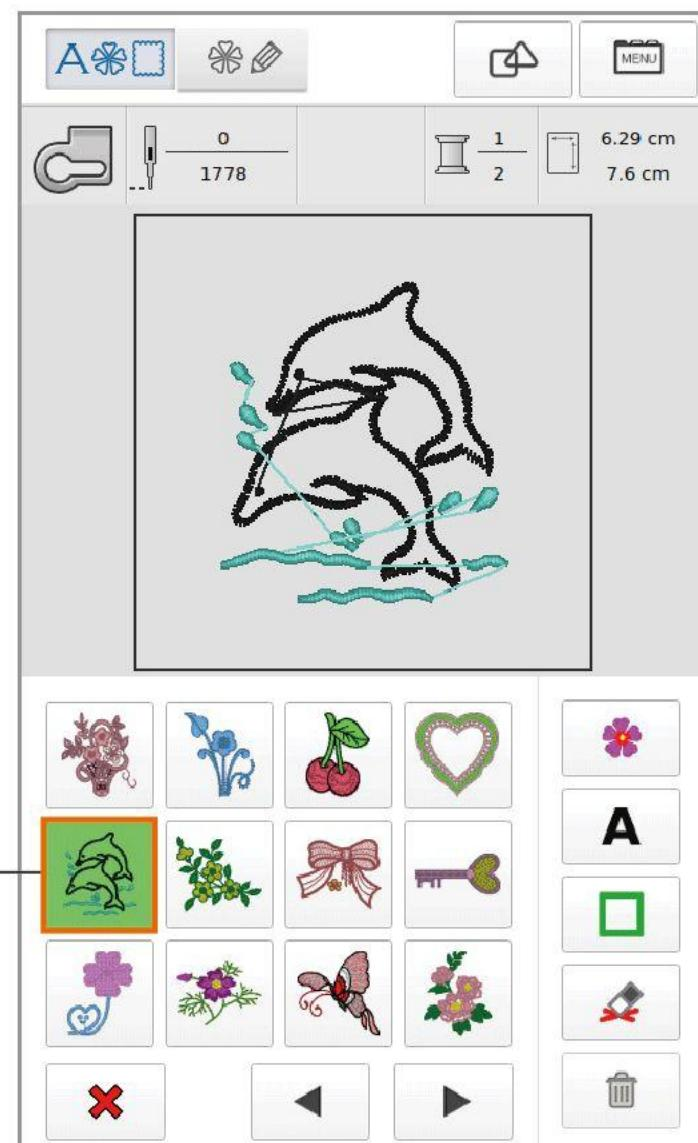

图2 Figure 2
- ② 点击内置绣花花样键，进入花样选择界面，如图2。
Click the built-in embroidery pattern button to enter the pattern selection interface in Figure 2